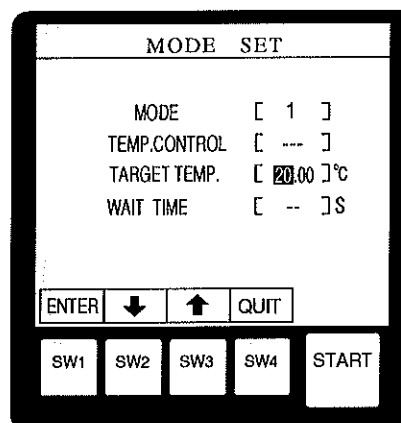

Fig.10-2
- The display switches to a screen as shown in Fig. 10-2. The temperature integer part of the TARGET TEMP. value should be blinking. Use the SW2(\downarrow) or SW3(\uparrow) key to set the blinking number to [20] for 20°C, then press the SW1 (ENTER) key.